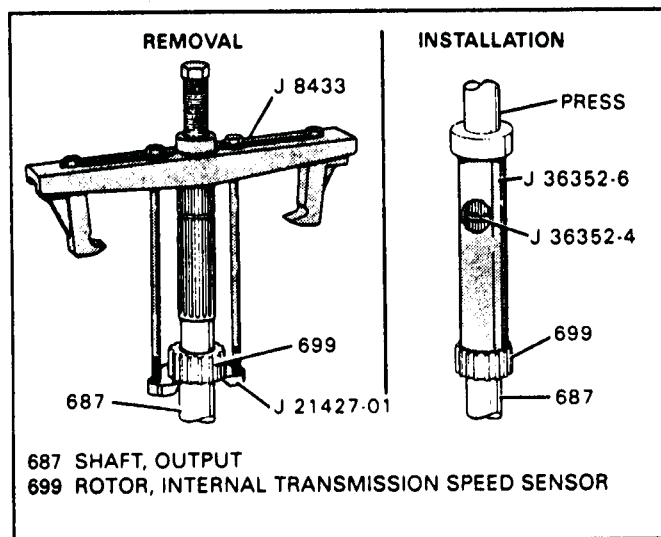

Figure 80
11. Removal and installation of the speed sensor rotor is shown in Figure 80.